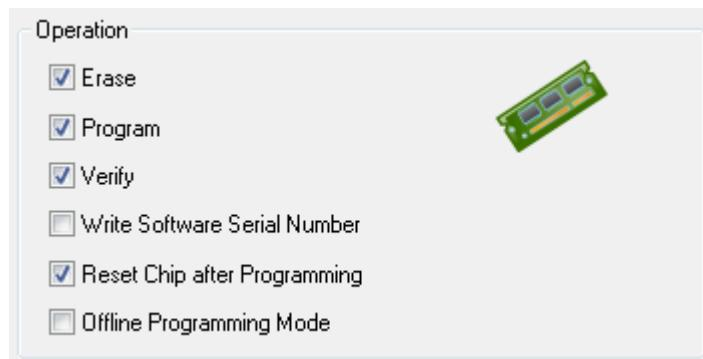

Figure 4-3 Program Option Select
6. Select “**Erase**”, “**Program**”, “**Verify**”, and “**Reset Chip after Programming**” options, as shown in Figure 4-3.